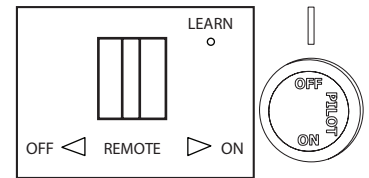

Fig. 26 - Receiver & Control Knob
2. Set receiver switch to “ON” position (See Fig. 26).
3. Turn control knob clockwise ↷ to the “OFF” position (See Fig. 26).
4. Wait five (5) minutes to clear out any gas. Then smell for gas, including near the floor. If you smell gas, STOP! Follow “B” in the safety information as noted above. If you don’t smell gas, go to the next step.
5. Push in slightly and turn control knob counterclockwise ↶ to the “PILOT” position (See Fig. 26). Depress control knob.